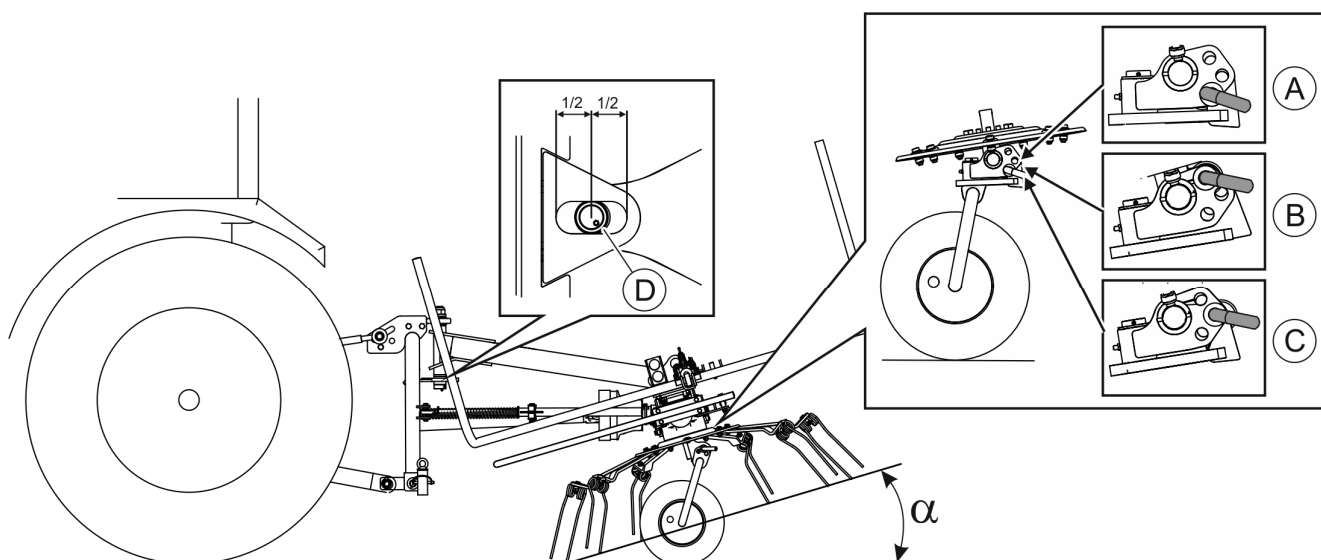

FIGURE 4.8 Tedder operation - rotor inclination angle (spreading angle).
- set the height of the lower links of the tractor's three-point linkage and adjust the length of the upper link in such a way that the rotors lean forward and the spring fingers lightly touch the ground, and the joint sleeve is in the central part of the long hole (D) (FIGURE 4.8),
- move the pins blocking the position of the wheels to the desired angle of inclination (A), (B) or (C) (FIGURE 4.8) and secure them with cotter pins